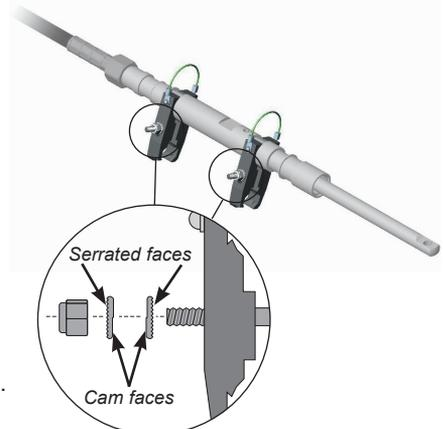

Fig B27 - Fitting the clamp assemblies
- i) The anti-vibration washers must be fitted in the correct order on the clamp assemblies, with the serrated face of the washer in contact with the nut face and the clamp face. The cam face of the washers must be in contact with each other (Fig B27).